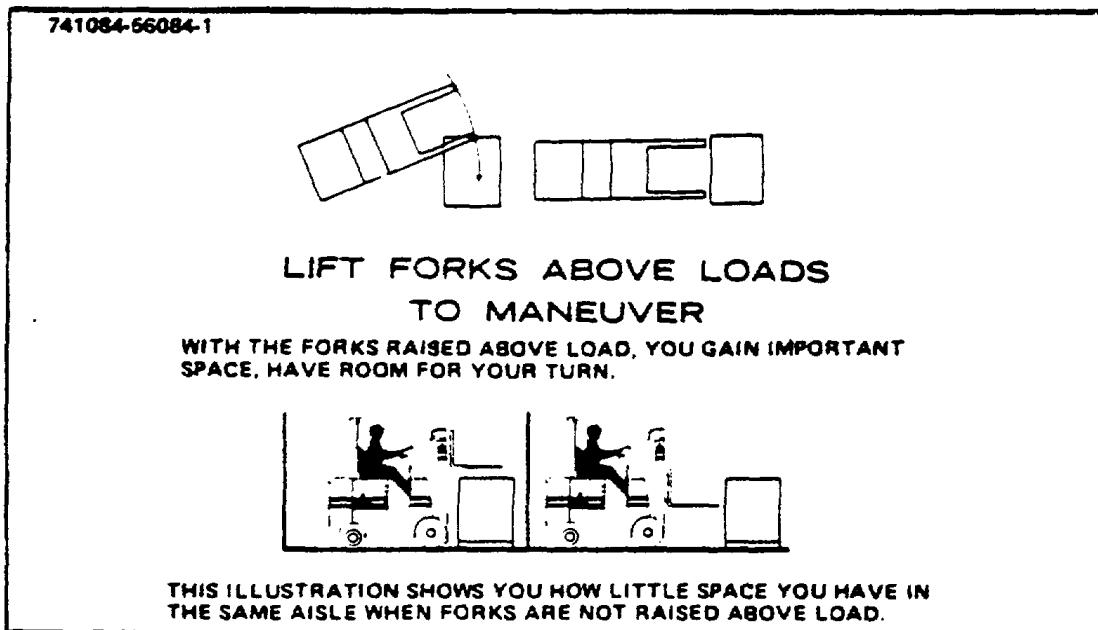

Figure 3-12. Narrow Aisle Maneuver
- (13) To maneuver in narrow aisles, raise the forks high enough to clear the stack and gain additional maneuvering area (Fig. 3-12).